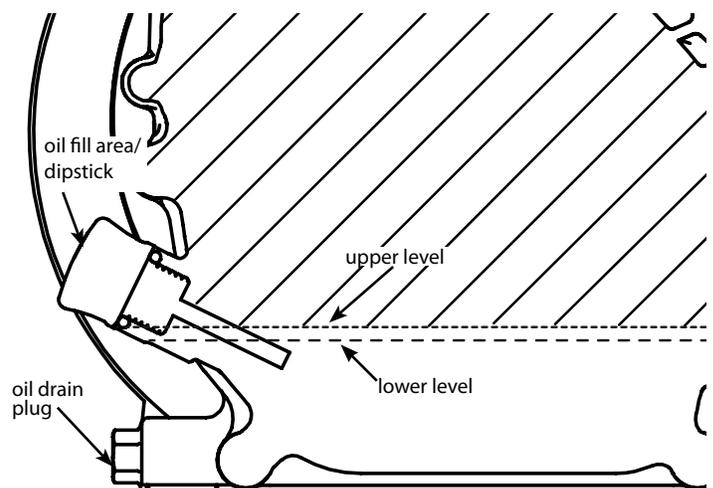

Figure 9: Filling and changing oil
2. Remove oil drain plug and empty oil into suitable oil container. Dispose of oil properly. **SEE FIGURE 9.**
3. Reinstall drain plug. Remove dipstick (if applicable) or oil fill cap. **SEE FIGURE 9.**
4. Fill with appropriate oil to “FULL” or top line of dipstick; otherwise to top thread of oil fill hole. **SEE FIGURE 9.**
4. After analysis, seat spark plug and tighten with spark plug wrench to compress the sealing washer. **SEE FIGURE 9 on previous page.**